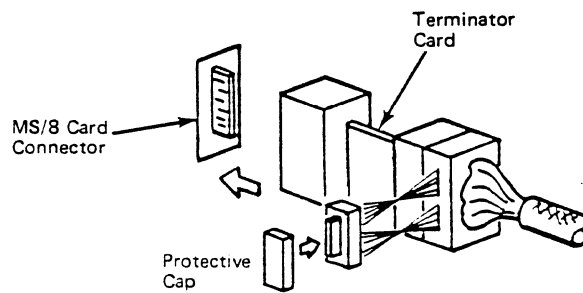

Figure 7-7. Terminator Card Connection on Last Extension Unit
- The protective cap is in place on the interface cable at the last extension unit (Figure 7-7).